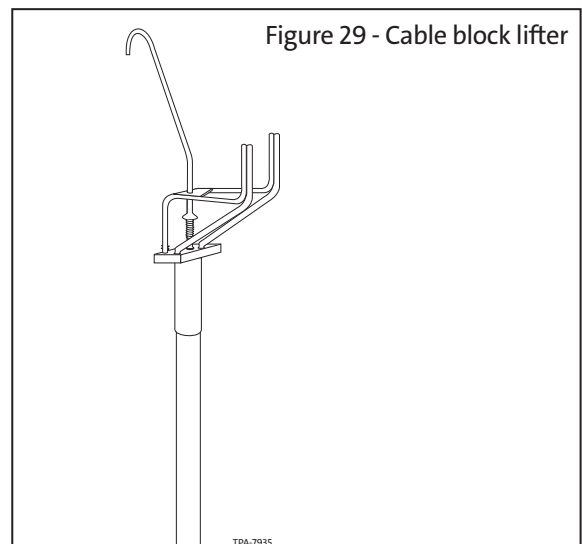

Figure 29 - Cable block lifter
3. Cable blocks are positioned and secured in place on the strand with a cable block lifter mounted on a pruning (lift-up) stick (Figure 29).